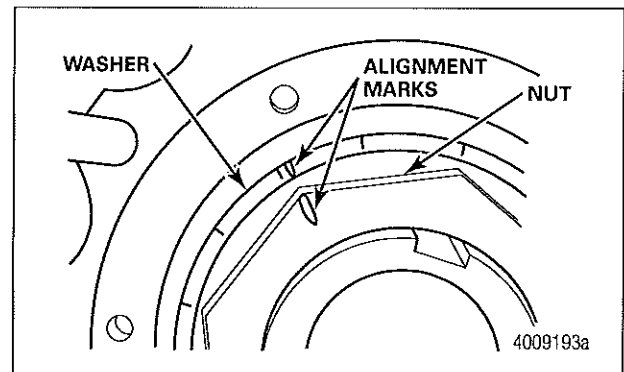

Figure 25
- H. Mark the washer and nut to ensure correct alignment. Figure 25.